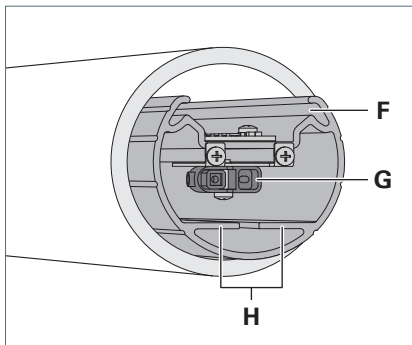

Fig. 5: Mounting profile and plug.
- ▶ Pull the mounting profile **F** somewhat out of the luminaire, see Fig. 5.